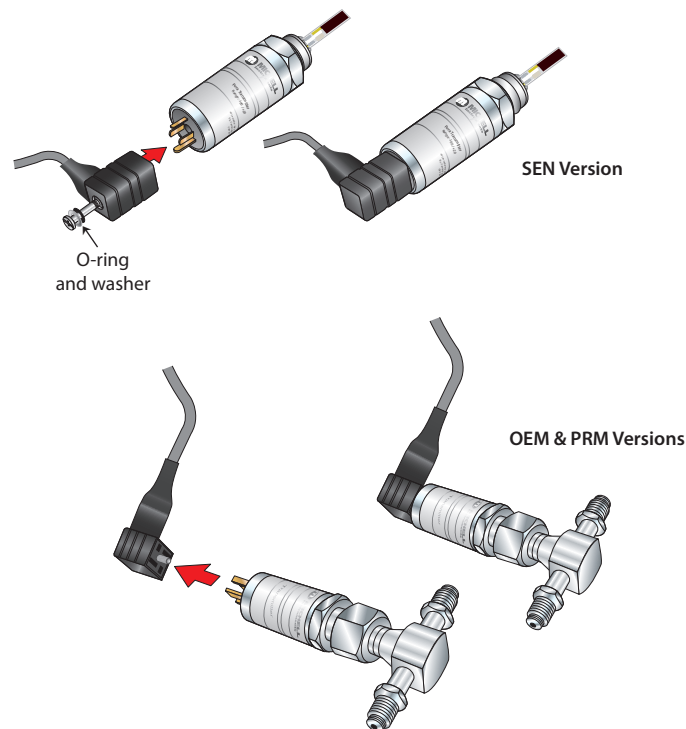

Figure 13 Connector Installation
1. Remove the red protective cover (2) from the tip of the transmitter (1).
2. Fit the 1/2" VCR gasket (3) over the threaded part of the transmitter body.
3. Screw the transmitter (1) into the sensor block (4) and tighten the gas line nut 1/8 (one eighth) of a turn using a second spanner/wrench. **NOTE: Use the flats of the hexagonal nut and not the sensor body.**
4. Fit the transmitter cable/connector assembly to the plug located on the base of the transmitter and tighten the fixing screw (see *Figure 13*).